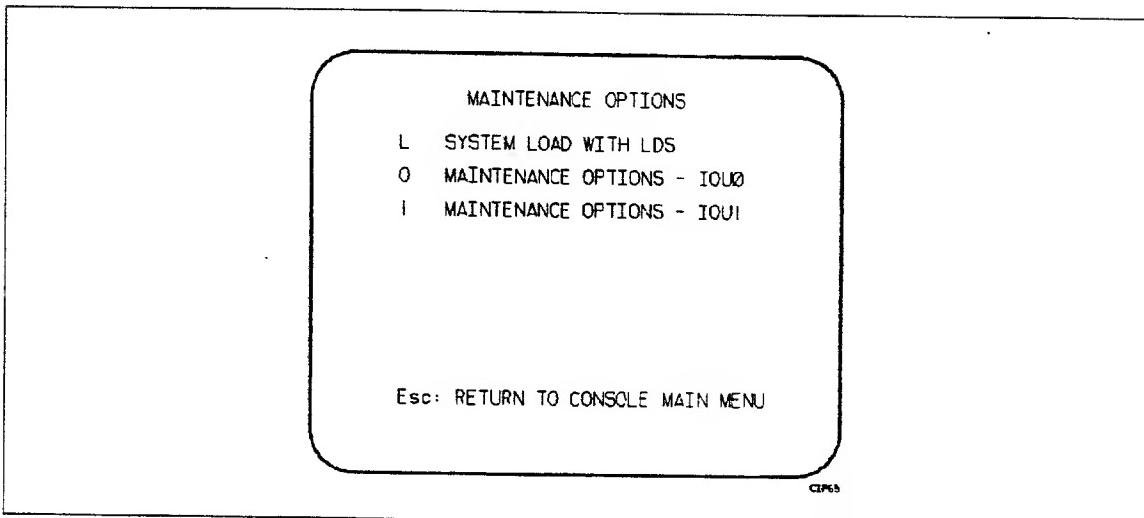

Figure 3-5. Maintenance Options Menu (Dual IOU Systems)
- a. From the CONSOLE MAIN MENU, type **M** to bring up the MAINTENANCE OPTIONS menu shown in figure 3-5.
If you wish to execute a long deadstart in both IOUs via a single display option, select L, SYSTEM LOAD WITH LDS, from the MAINTENANCE OPTIONS menu (figure 3-5).